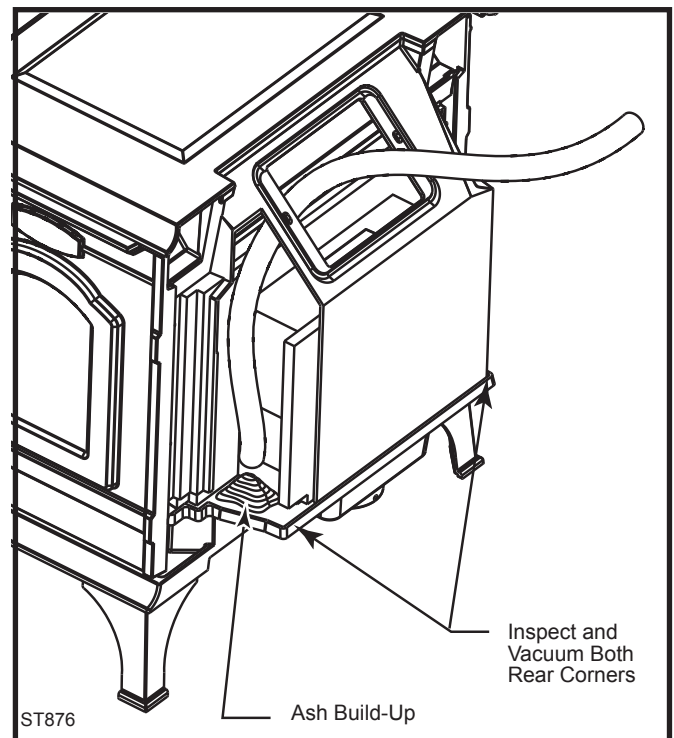

Fig. 39 Inspect and clean out ash accumulation on either side of the non-catalytic combustion system.
- Inspect for and remove ash build-up behind the combustion package. This should be done in conjunction with annual cleaning of the chimney connector since this inspection is most conveniently done through the flue collar opening. Inspect the passages to either side of the combustion package (a mirror will be helpful) and vacuum away ash using a flexible vacuum hose inserted into each passage. Care should be taken not to damage the white fibrous material in this rear chamber. (Fig. 39)